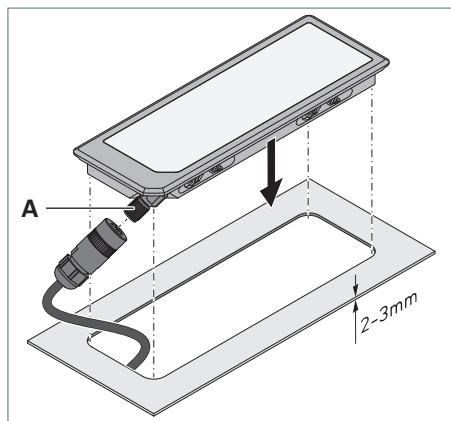

Fig. 5: APE – Mounting the luminaire.
- Thread the connecting cable and the plug-in connection through the cutout, see Fig. 5.